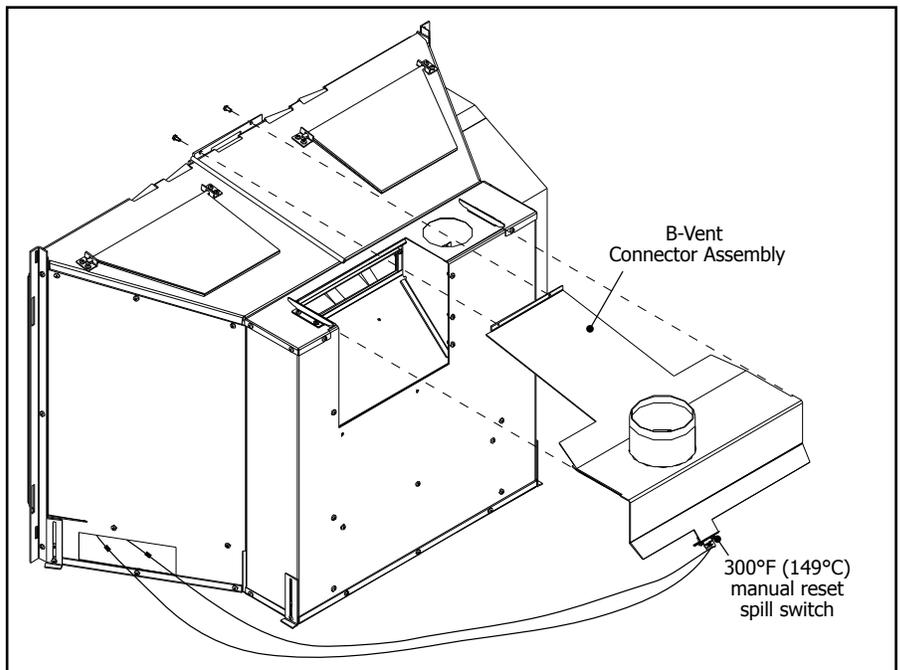

Figure 17: Converting to a BV fireplace.
4. Disconnect the two (2) blue wires at the opening to the right of the unit and connect them to the 300°F (149°C) manual reset spill switch at the rear of the B-Vent chimney connector with the wires supplied. Refer to Figure 17.